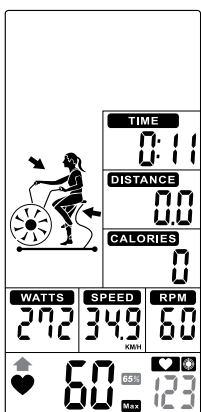

Figure 47
- ④ When Heart Rate goes below to 65%, **65%** & value will flash. And buzzer sounds in every 10s until user HR achieve above 65% (Figure 47).